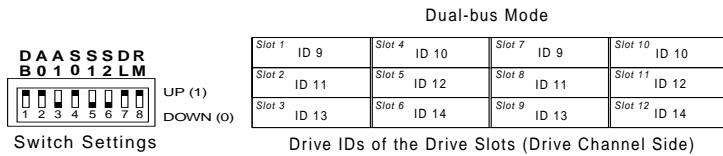

Figure 3-20 12-Drive Switch Settings
- Establish the drive configuration by setting the SAF-TE switches to reflect the settings shown Figure 3-20.
- 1 Establish the drive configuration by setting the SAF-TE switches to reflect the settings shown in Figure 3-20 on page 3-24. Use the same switch settings for both storage enclosures.